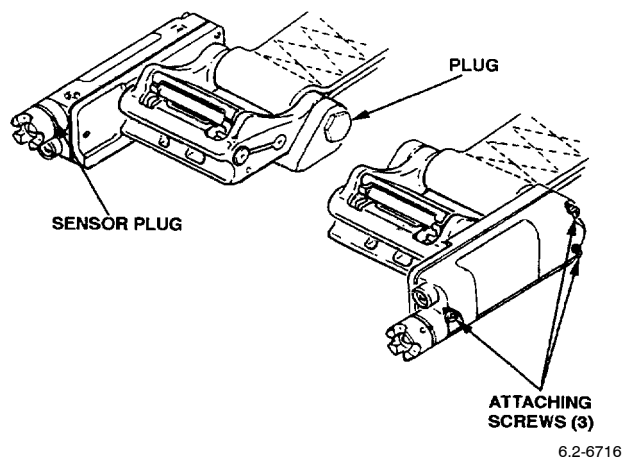

Figure 1. Replacement of Torque Seal on PHSRU
b. Apply torque seal to the plug assembly, sensor plug, and electronics package assembly attaching screws (Figure 1).